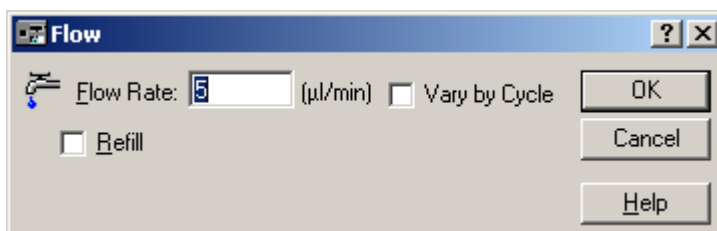

Figure 2.4
- 2.7.2 The Flow setting window (Fig. 2.4) will open